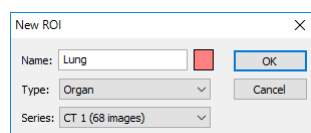

Figure 237 – New ROI dialog
2. The **New ROI** dialog for defining the main properties of the new ROI is then displayed (see Figure 237).